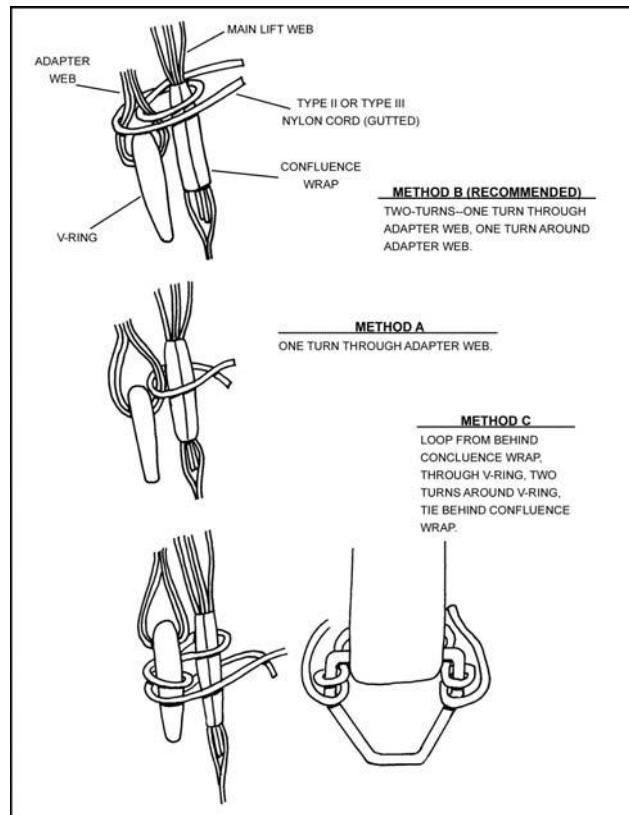

Figure 12-6. Securing lowering line adapter web with Type II or Type III nylon cord.
b. When attaching equipment to be lowered, the web must be routed under the waistband. Type II or III nylon cord (guttled) is used to eliminate slack between the accessory attaching ring and the parachute harness main lift web. This is done by making one turn through the accessory attaching ring loop in the adapter web, and one turn around the main lift web of the parachute harness and the lowering line adapter web (Figure 12-6). The loose ends must be tied together using a suitable joining knot such as a square knot followed by two overhand knots or a surgeon's knot.